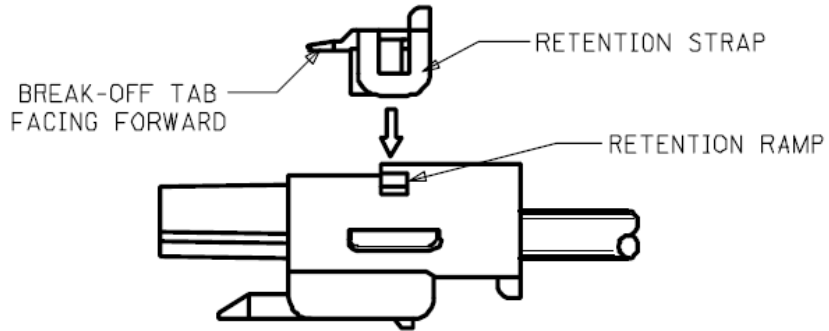

FIGURE 2-34
- f. Refer to **Figure 2-34**. Install the tab that was removed from the housing as shown in **Figure 2-34**.